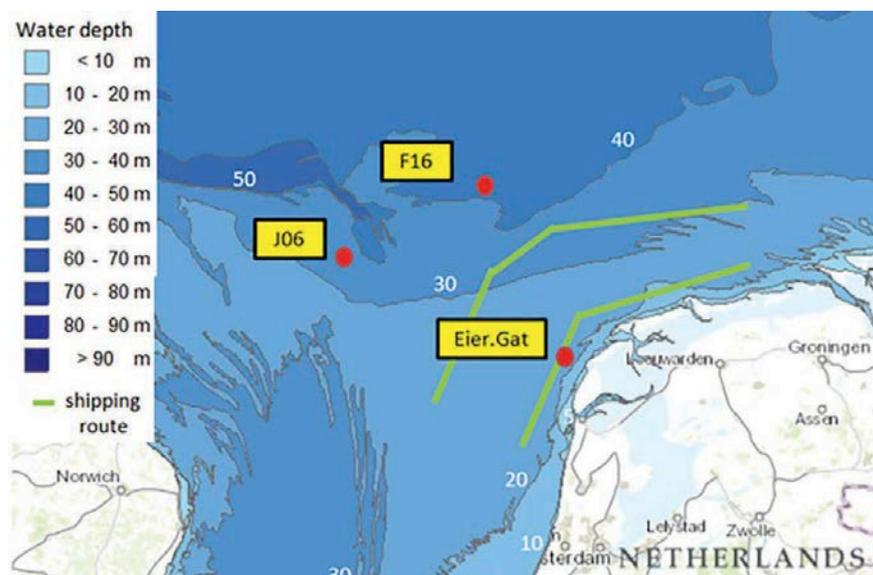
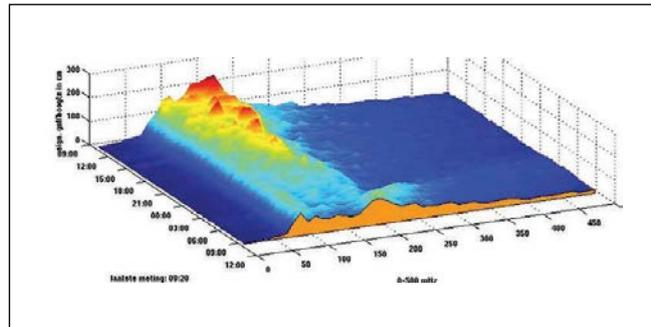

Figure 1: SNS area with wave buoys, water depth and typical shipping routes (courtesy of Rijkswaterstaat)
Figure 3: Typical evaluation of wave spectrum over one day at EG (4-5 Feb 2016) given in mHz
Figure 1: Picture of the flow (obtained with ReFresco) around the stern of an inland ship. The skirts of the tunnel are shown as well as the propeller ducts. Also, a cut-slice of the flow in x-direction is given. The blue curves are flow tracers, showing that the non-uniform flow in the cut-slice will pass through the propellers
skirts and propeller ducts are presented in Figure 1, together with specific flow features.
Wave data measured by Rijkswaterstaat was available at three locations in the SNS (Figure 1). A wave spectrum was delivered every three hours by a wave buoy for a duration of ten years at the Eierlandse Gat (EG) between January 2005 and December 2014 and by a wave radar for six years at platforms J06 and F16, between February 2009 and December 2014. The typical evaluation of such a spectrum is shown in Figure 3.